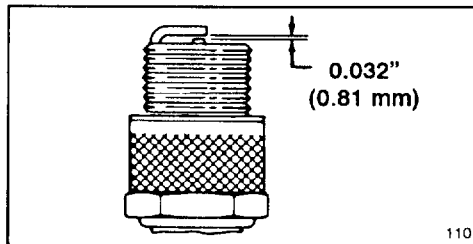

Figure 9
1. Stop engine and pull wire off spark plug (Fig. 9).
3. Set air gap at 0.032" (0.81 mm) (Fig. 9). Install correctly gapped spark plug and gasket seal. Tighten plug firmly to 10 ft-lb (13.6 N-m).